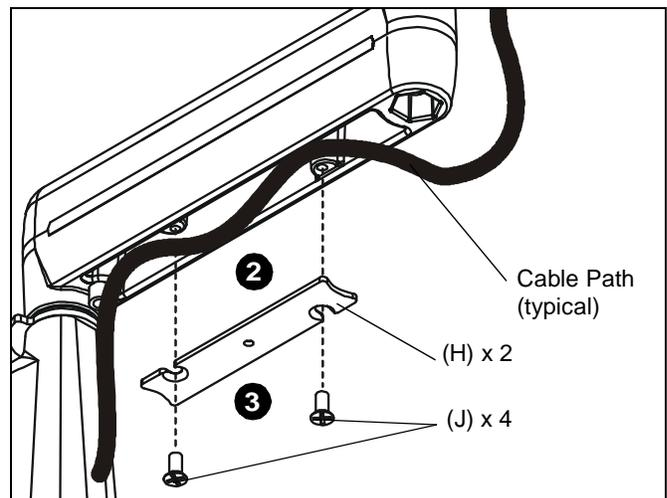

Figure 10
2. Carefully insert cables in cavity located in lower portion of mount arm. (See Figure 10)
3. Using Phillips screwdriver, install cover (H) with two screws (J) per arm. (See Figure 10)